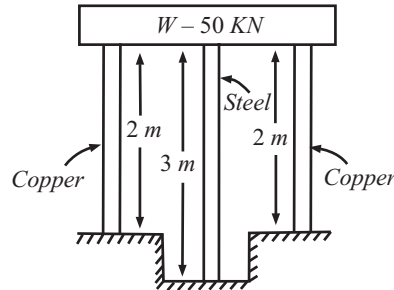

Fig. 14.36
Q. 49: Two copper rods one steel rod lie in a vertical plane and together support a load of 50kN as shown in Fig. 14.36. Each rod is 25 mm in diameter, length of steel rod is 3 m and length of each copper rod is 2m. If modulus of elasticity of steel is twice that of copper, make calculations for the stress induced in each rod. It may be presumed that each rod deforms by the same amount.